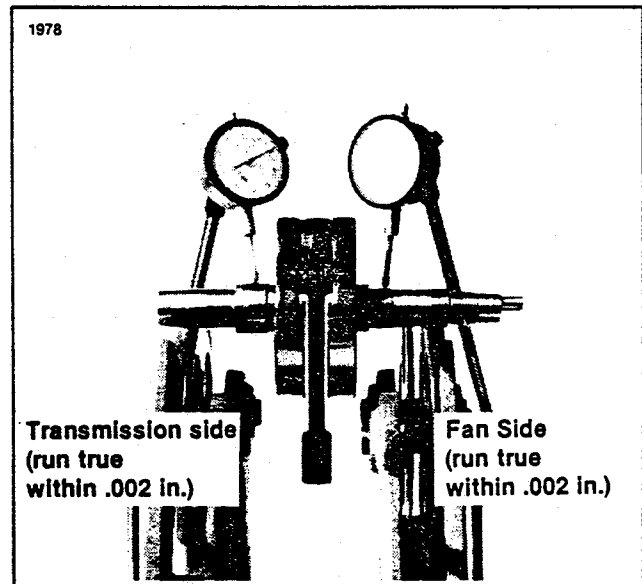

Figure 5-20. Checking Crankshaft Run-Out
6. See Figure 5-20. Using a truing device and dial indicators as shown check shaft runout.